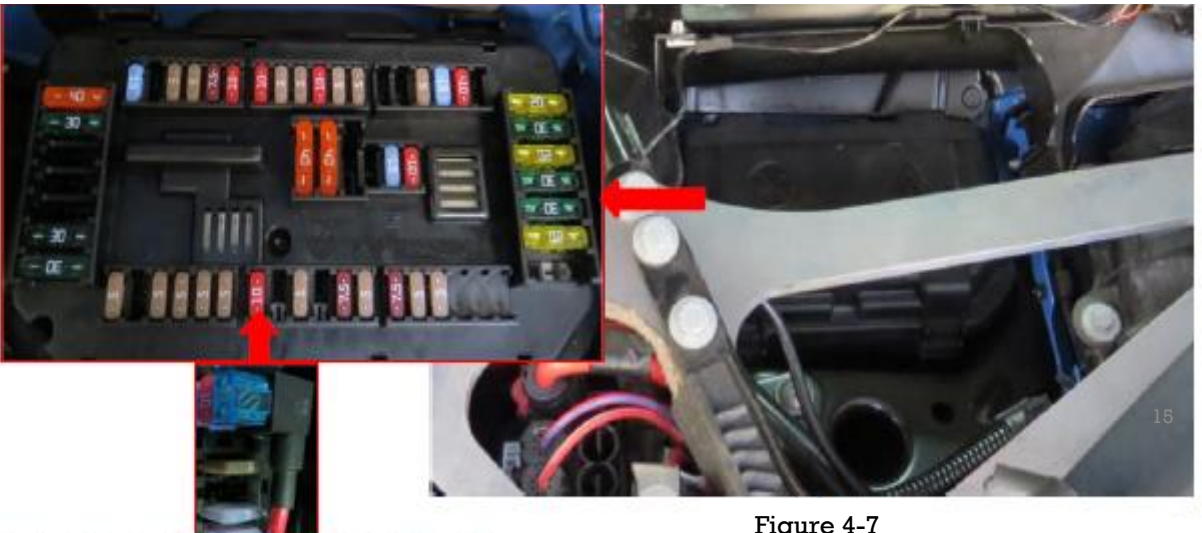

Figure 4-7
(1) Positive pole (Table 3-1 No. 3 red line): Connect the fuse cable under the left cover of the engine compartment. Figure 4-7